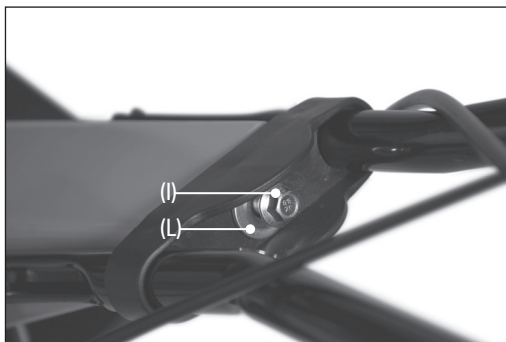

Fig. 5
- g. Pass the M8 x 35mm half-thread flange bolt (I) through an M8 washer (L) and down through the handlebar bracket into the support to secure it in place (Fig. 5).